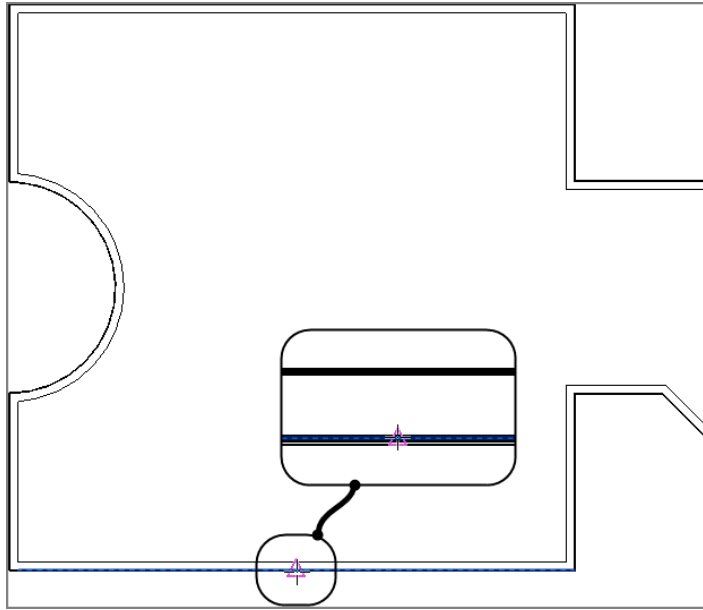

FIGURE 2.18: Adding the new walls requires picking the midpoint of this wall. Make sure Offset is set to 15'-0" (4500mm) on the Options bar.
6. Pick the midpoint of the south wall, as shown in Figure 2.18.